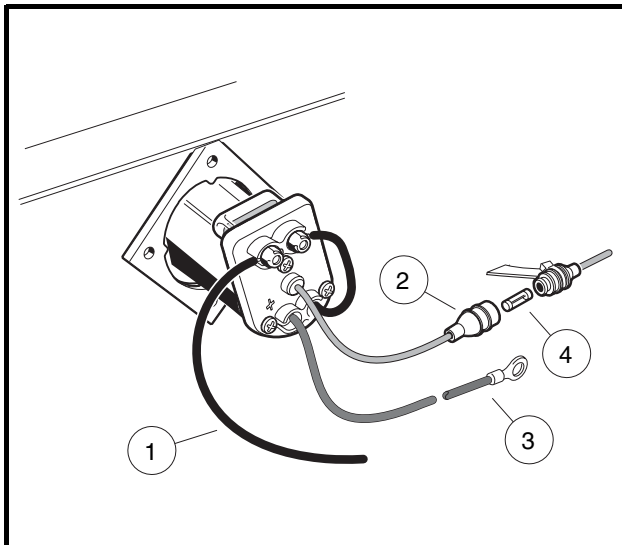

Figure 4-5 Charger Receptacle
8. Remove all wires from the terminal block (1) located on the driver side of the center body assembly. **See following NOTE.**
10. Remove the lock nut that connects the black wire (1) to the charger receptacle (**Figure 4-5, Page 4-5**).
11. Disconnect the yellow fuse holder (2) from the wire harness.
12. Remove the 10-gauge red wire (3) from the large solenoid post.
6. Tighten the nut securing the 10-gauge black wire (1) to the charger receptacle to 23 in-lb (2.6 N·m) (**Figure 4-5, Page 4-5**).
8. Remove the lock nut that connects the black wire (1) to the charger receptacle (**Figure 4-5, Page 4-5**).
9. Disconnect the yellow fuse holder (2) from the wire harness.
10. Remove the 10-gauge red wire (3) from the positive post of battery no. 1.